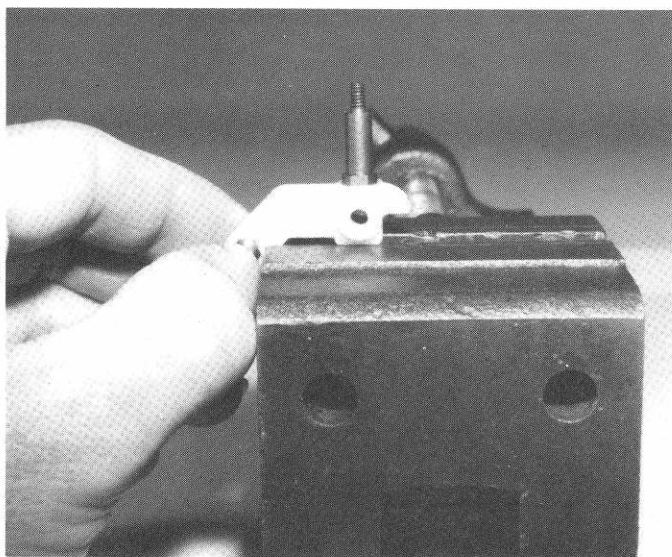

Fig. 11a
□ **Fig. 11a** You'll notice that the hex part of the axle does not go all the way into the steering block. That's O.K. Just make sure the hole in the axle is lined up with the hole in the steering block.